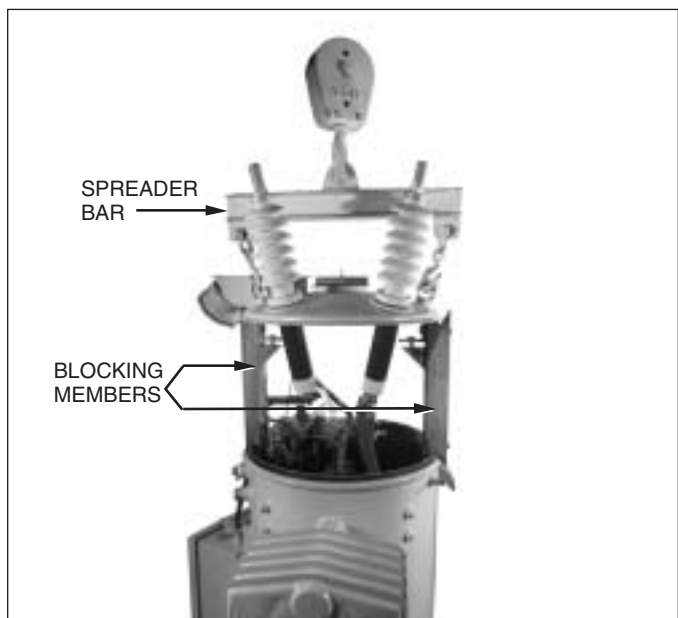

Figure 1-10.
5. Attach sling or hooks with spreader bar (Figure 1-10) to lifting eyes and raise the cover, with the attached core-and-coil assembly, until the top of the coil is approximately one inch under oil. As a safety precaution, blocking between the cover and tank lip should be used until inspection of the tap changer or other maintenance is complete. A service cable assembly is available for operating an untanked regulator from the mounted control cabinet, if connection cable is not long enough. Contact customer service for availability.